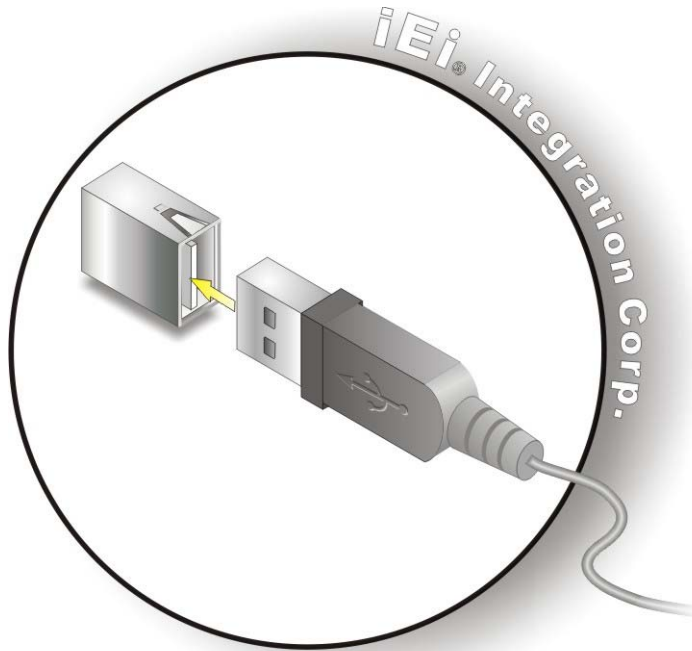

Figure 4-20: USB Device Connection
Step 2: Align the connectors. Align the USB device connector with one of the connectors on the SPCIE-C2260-i2. See **Figure 4-20**.